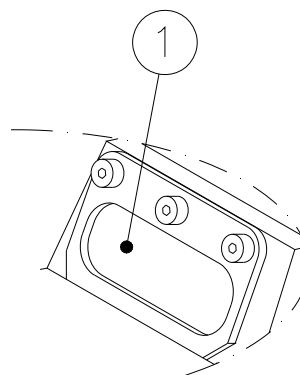

Figure 19 - Prism Cleaning
- clean the prisms surfaces (Figure 19 - n°1) with non-abrasive glass cleaning product